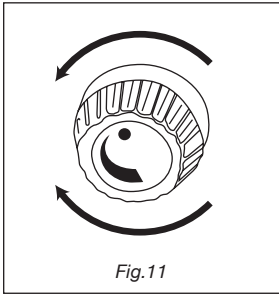

Fig. 11
5. Ensure that the burner control valves are OFF by turning the knobs fully clockwise to the OFF position. See Fig. 11
8. Turn the gas control knob to the ON position, Depress the separate RED ignitor button to ignite the cooker. (Fig. 11)